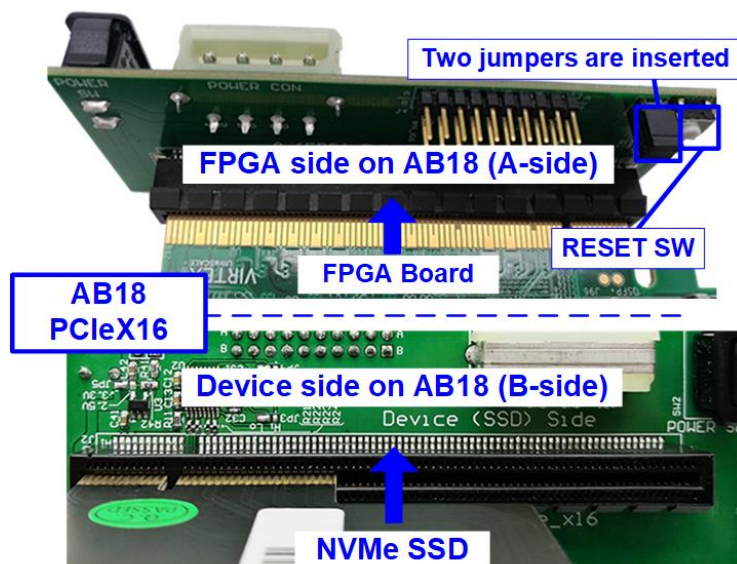

Figure 2-2 Connect Adapter board to NVMe SSD (PCIe) and FPGA board
- Connect Gen4 NVMe SSD (PCIe) to device side (B-Side) on AB18, as shown in Figure 2-2.